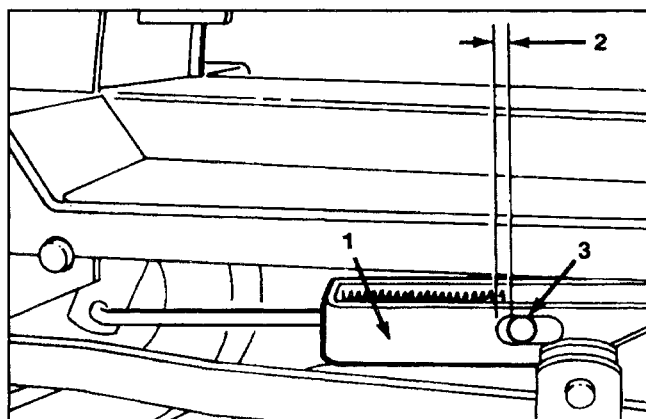

Figure 24
3. Rotate the adjustment rod until there is 0.060 inch (1.5 mm) or less between the end of the slot in the engagement bracket and the outer diameter of the pin (Fig. 24). It should not bottom in slot.